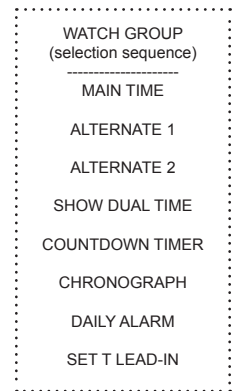

Fig. 7 - WATCH MAIN (Home, Dual on)
**MAIN (Default) TIME**, information includes (Fig. 7):